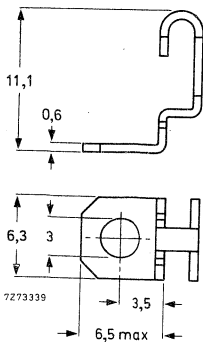

Fig. 5 Metal mounting bracket 4332 026 00760.
- metal bracket for panel mounting, catalogue number 4332 026 00760 (Figs 5 and 6).